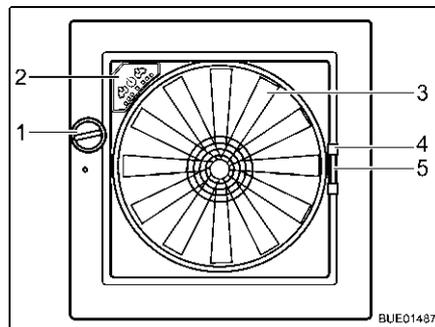

Fig. 95 Skylight Omni-Vent
- Turn the knob (Fig. 95,1) until the desired opening angle is reached.
- Turn the knob (Fig. 95,1) until the skylight is fully closed.
- Using the handle (Fig. 95,4) pull the insect screen across to the other side of the frame.
- Press together the handle (Fig. 95,5) of the shade.
**Fan** If the skylight is open, the interior can be ventilated with the 6-speed fan (Fig. 95,3). The fan is operated via the operating panel (Fig. 95,2).